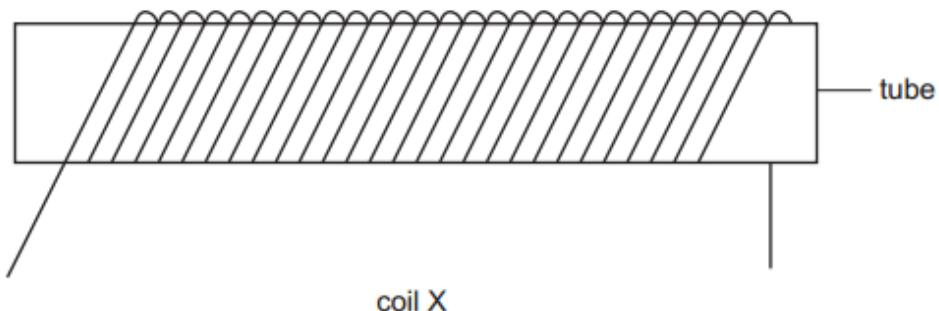

Fig. 1.1
- 1 Fig. 1.1 shows a coil (coil X).